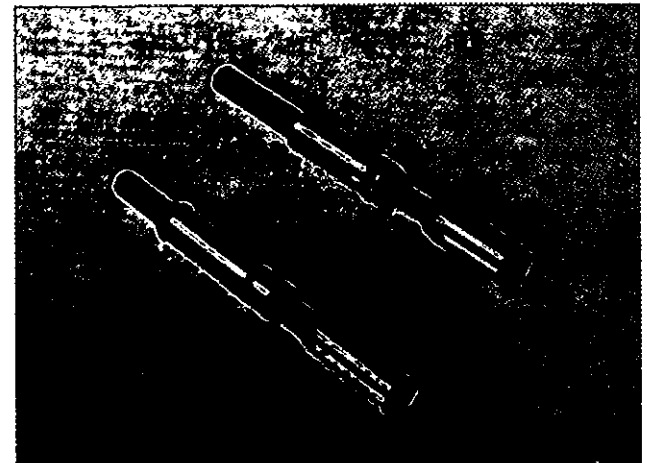

Fig. 2-11, (F5395). New and old AFC plungers.
2. The AFC plunger will have an O-ring near the threads, Fig. 2-11.